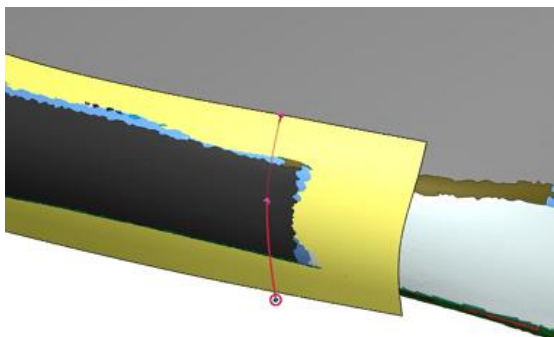

Figure 221
- Draw a Spline on the Mesh Fit4 surface body (**Figure 221**).